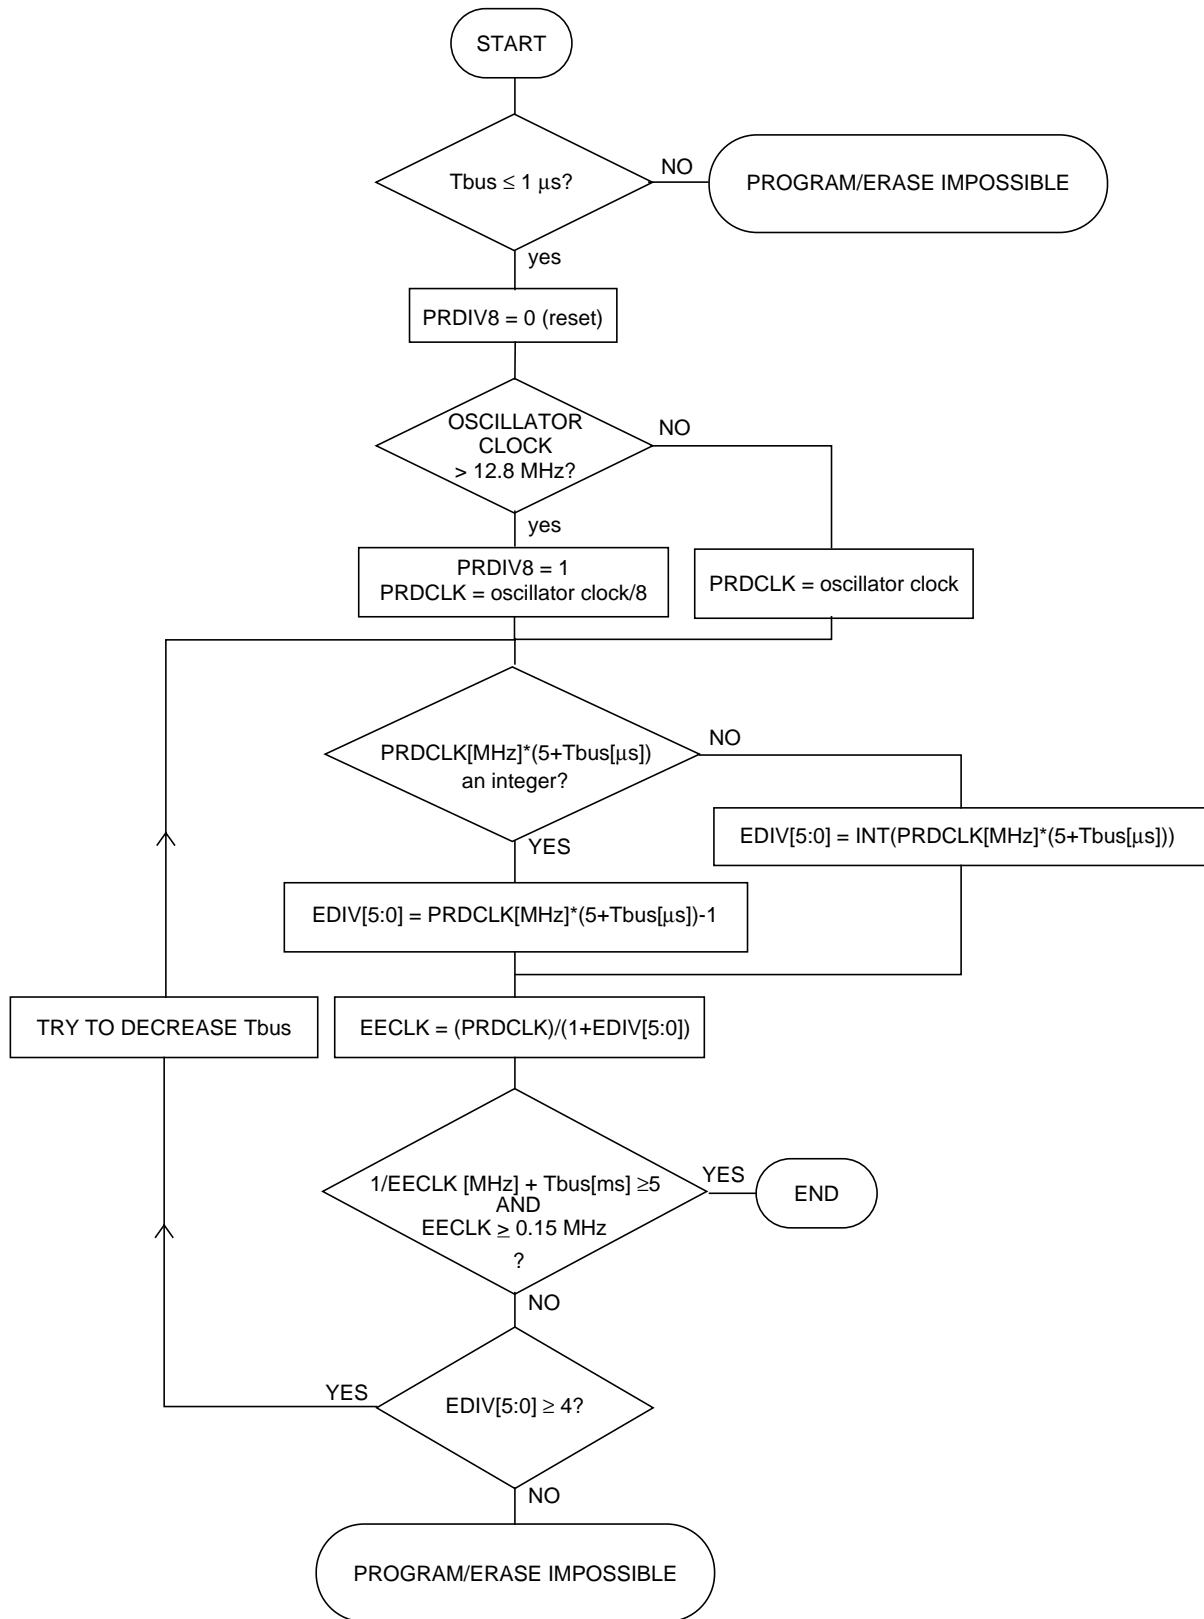

Figure 3-17. PRDIV8 and EDIV Bits Determination Procedure
- INT(x) as taking the integer part of x (e.g., INT(4.323)=4), then ECLKDIV register bits PRDIV8 and EDIV[5:0] are to be set as described in Figure 3-17.